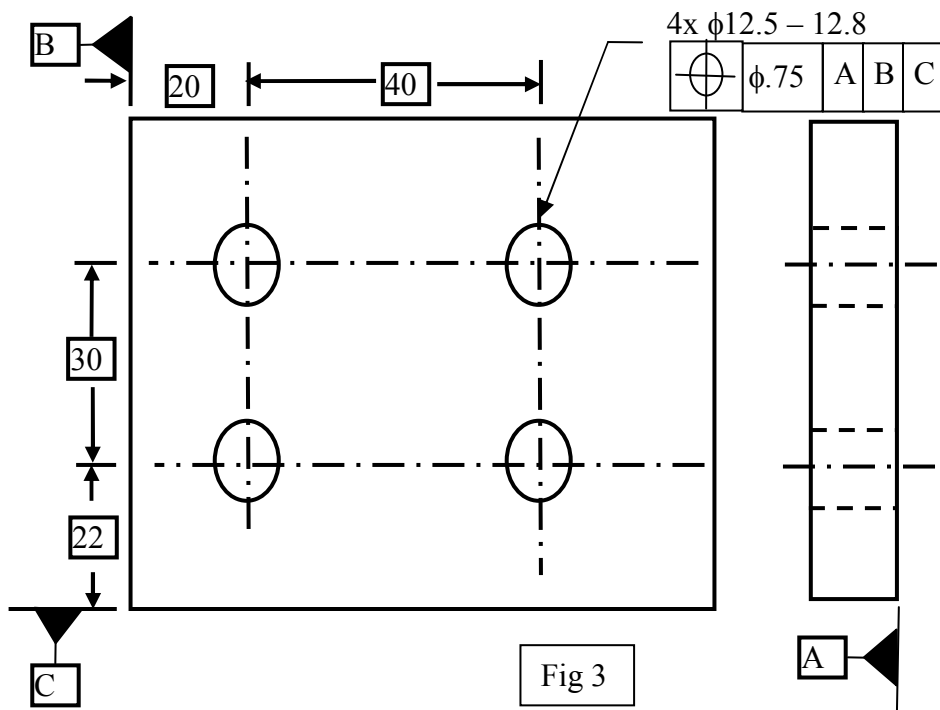

Fig 3
- Q.2 (a)** What is the size and shape of the positional tolerance zone for each hole when the hole is produced at $\phi 12.5$ and $\phi 12.8$ (Fig 3)? If bonus tolerance is to be used, how will you modify the feature control frame? If the flatness error of datum A is .05, then will it influence the positional error? Justify your answer. **06**